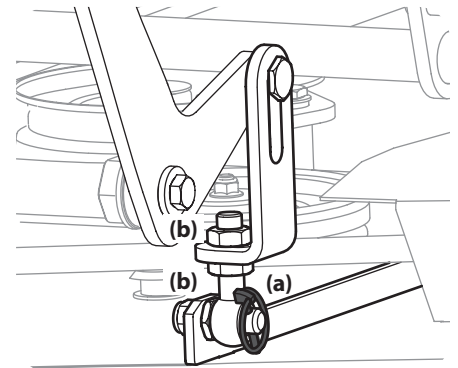

Figure 37
3. Adjust the eyebolt (a) at the left front of the deck so that the blade-to-ground height at the right outside blade tip matches that of the left outside blade tip. This is done by loosening the jam nuts (b) on the eyebolt (a) and tightening the upper jam nut (b) to raise the deck and loosening the jam nut (b) to lower the deck. The right outer blade tip height is fixed by the right, front eyebolt (a) so you must adjust the left outer tip to match it. See Figure 37.
4. Once the proper adjustment is made, re-tighten the jam nuts (b). See Figure 37.
3. Loosen the jam nuts (b) at the rear left and right of the deck eyebolts (a). Refer to Figure 37 on page 25.
4. Start at the rear right to raise the rear of the deck, tighten the upper jam nut (b) to raise the deck or loosen the upper jam nut (b) to lower the rear of the deck. Refer to Figure 37 on page 25.
5. Adjust the jam nut (b) at the rear left to take the "slack" out of the threaded rod. Refer to Figure 37 on page 25.
6. Tighten both lower jam nuts (b) to secure the deck adjustment. Refer to Figure 37 on page 25.
7. The final adjustment would be to take the "slack" out of the left rear linkage if the rear of the deck was raised by adjusting the jam nuts (b) on the eyebolt (a). Loosen the jam nuts (b) and tighten the upper jam nut (b) to remove "slack". Refer to Figure 37 on page 25.
8. In many cases it will be necessary to adjust deck height using both eyebolt (a) adjustments and pitch adjustment to achieve the correct blade-to-ground heights. If you remember that the front right blade tip adjustment is fixed and you level to that height, adjusting the decks will be simplified. Refer to Figure 37 on page 25.